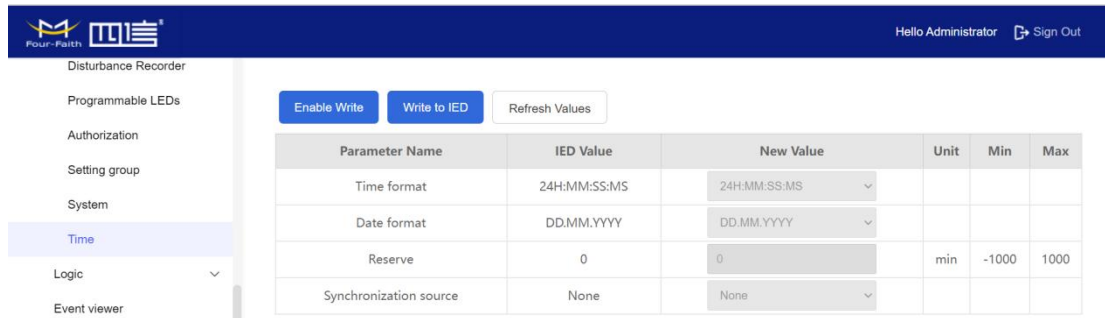

Figure 55
- 5) Click the “time” and parameter settings window will popup where it is possible to edit. (Figure 55)